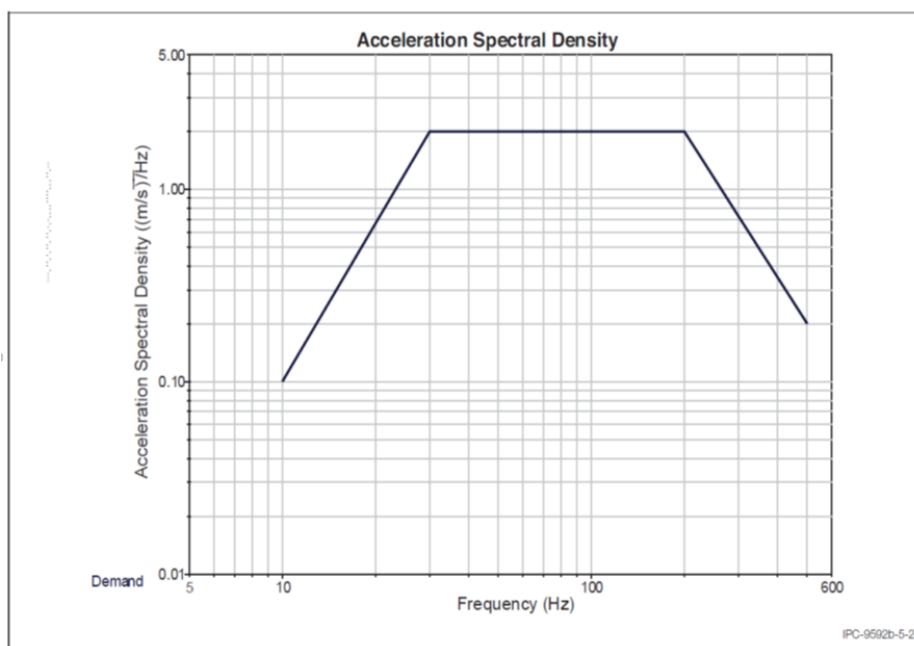

Figure 9. Class II PCDs Operating Vibration Test: Acceleration vs Frequency
**Test Method:** The devices shall be tested per the methods described in IEC 60068-2-64, Environmental testing - Part 2: Test methods - Test Fh: Vibration, broad-band random (digital control) and guidance. Each device shall be tested in three axes for a minimum of 30 minutes per axis. The device shall be powered for the duration of the test at nominal input voltage and no load. For operating vibration testing, see *Figure 9*.